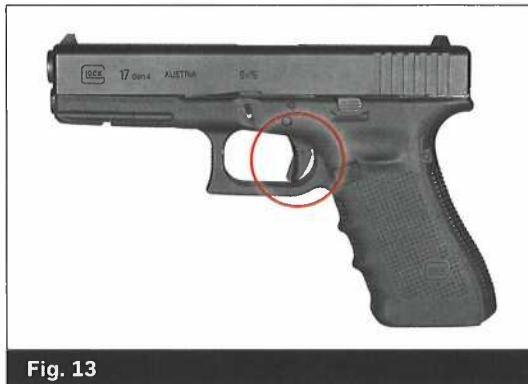

Fig. 13
- The trigger should then be in the rearward position and the engagement between the firing pin and the trigger bar will have been released. (Fig. 13)